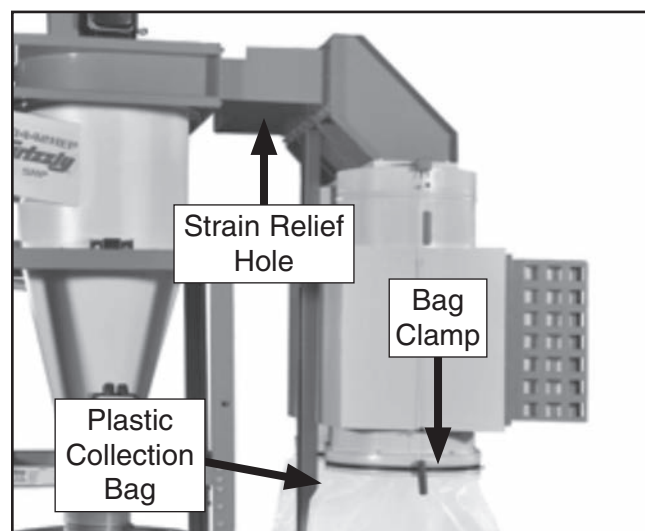

Figure 40. Strain relief hole location in outlet and collection bag installed.
47. Push other end of air tube into strain relief and attach strain relief to hole in bottom of filter adapter outlet (see **Figure 40**).
48. Slip plastic collection bags around opening under canister filters and secure with metal bag clamps (see **Figure 40**).